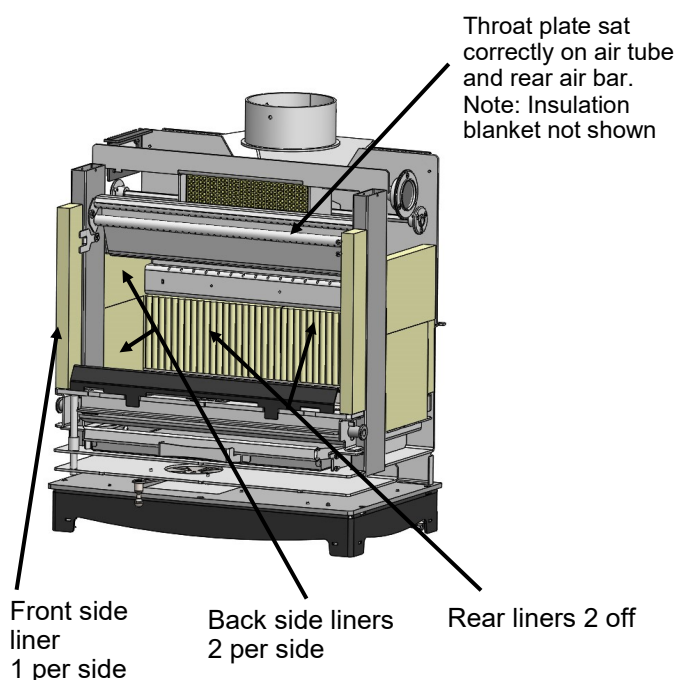

Fig 2
- Insert one of the side liner panels in each side at the back sitting on the side landing. Lift up one at a time past the throat plate as far as it will go and slide in the lower liner side liner. Repeat for the other set of rear side liners. (See Fig 2&3)
- Insert one front side liner in each side of the front of the stove. Secure in place with the front liner clamp as shown. (See Fig 2&3)